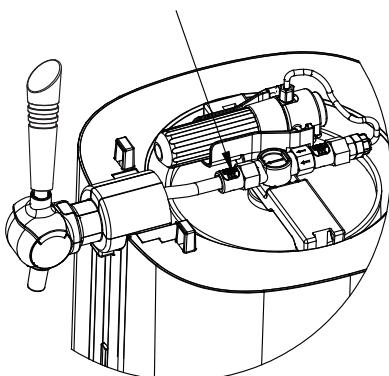

Figure 18
2. Disconnect the wine dispensing connector from the dispenser and press the white button first when removing it (Figure 18).